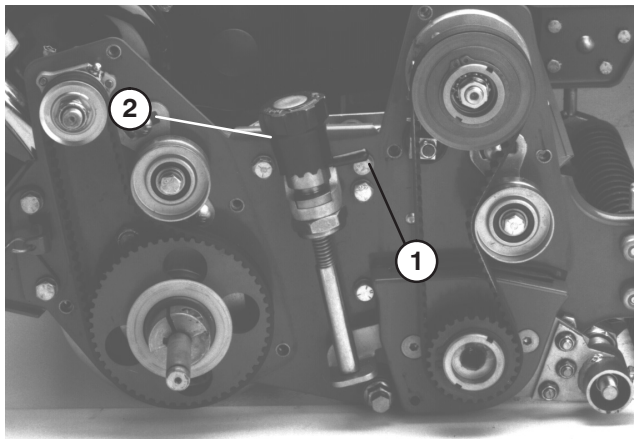

Figure 13
26. Using a 1/2" drive ratchet and extension, reinstall drive pulley and belt to reel shaft (Fig. 13). Secure the reel from turning with a wood block. Tighten pulley to 40 to 60 ft-lbs of torque.
2. Use the quick up levers (both sides) to lower the grooming reel into the grooming position (Fig. 13).
knob (Fig. 13) to raise or lower blade tip. Each notch on the micro adjustment knob is approximately equal to .007 inch of groomer depth.
Important When transporting machine be sure to raise the grooming reel into its transport (raised) position. To raise the grooming reel, rotate the right and left quick up levers so they face to the rear (Fig. 13). To lower the grooming reel, turn the quick up levers forward.